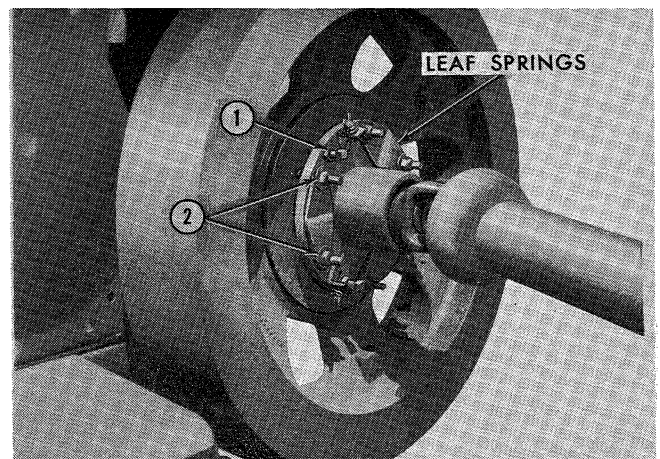

Figure 33
As each charge of hay is compressed in the chamber by the plunger, five spring loaded hay dogs, Figure 33, in the top and bottom of the bale chamber are forced out of the chamber by the hay. As the plunger starts its return stroke, the hay dogs should quickly "snap" back into the chamber to hold the charge of hay in compression. A sixth stationary hay dog, located on the top inside bale chamber, helps hold the hay for firm, even bales.
1. Adjust the three set screws (1), Figure 33, so that there is a slight drag on the clutch but it is still permitted to slip. Rotate the flywheel by hand to make certain the clutch plates have separated.